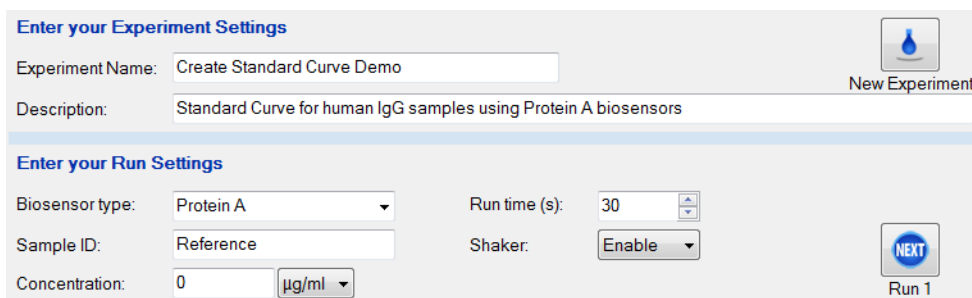

Figure 4-18: Entering Run Settings
4. Input **Run Settings** per Figure 4-18 and click  .